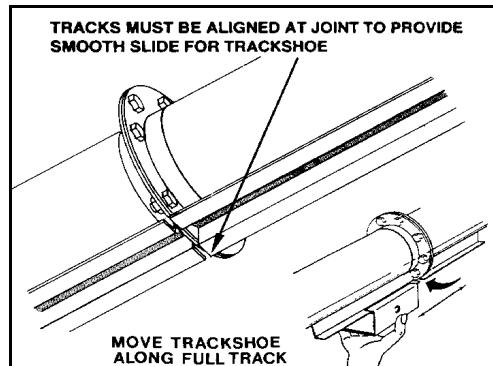

Figure 3.4 51' Lift Track Only
- 1. The **51'** auger has a 2-piece lift track. Make sure the upper and lower tube track sections butt together to form a smooth joint for the roller track shoe to roll across. Adjust if necessary (Figure 3.4).